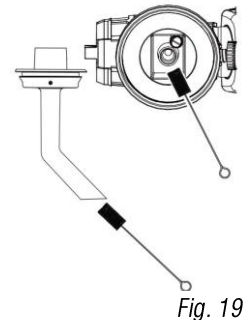

Fig. 19
11. Clean suction tube and suction nozzle in spray attachment using a brush and suitable cleaning agent (Fig. 19).